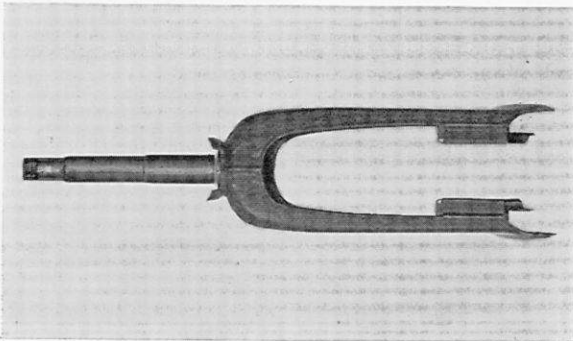

Fig. 4-13 Front fork
- Loosen the stem nut, remove the top cone race and pull out the front fork. (Fig. 4-13)